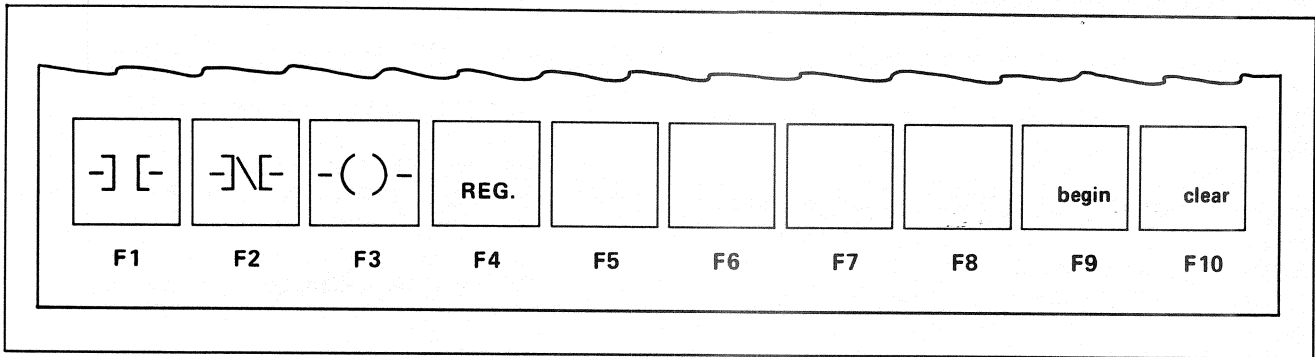

Figure 8-19. Element or Register Selection
**Step 7** — Select the element, register, or IG/OG group from the function keys shown in Figure 8-19.